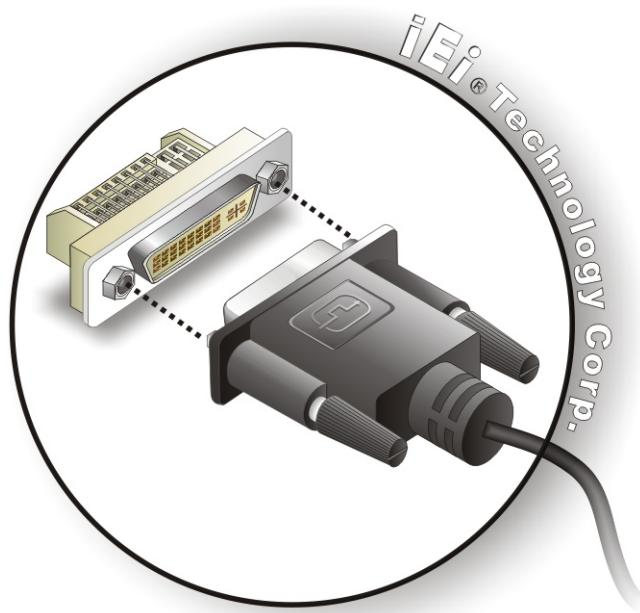

Figure 5-15: DVI Connector
Step 3: Insert the DVI connector Once the connectors are properly aligned with the male connector, insert the male connector from the digital display device into the female connector on the KINO-690S1. See **Figure 5-15**.